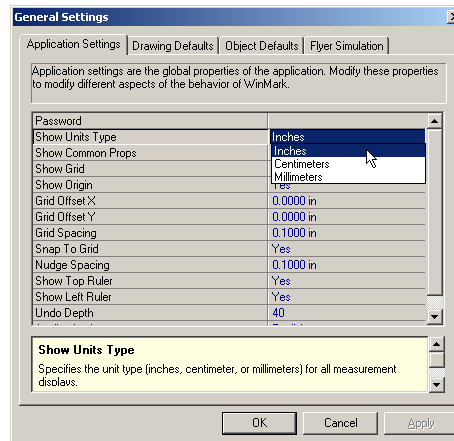

Figure 3-3 Changing “Show Units Type”
- 3 Click *Show Units Type* (Figure 3-3), and then click the arrow button.